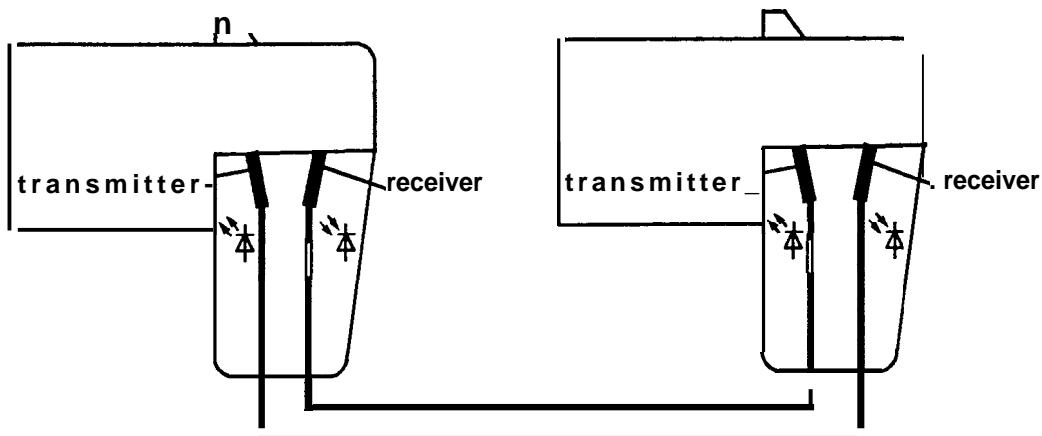

Figure 5-2. Connecting the Fiber Optic Cable to the Transmitter and Receiver
- Connect the two wave guides with the bayonet catch as shown (→ Figure 5-2).